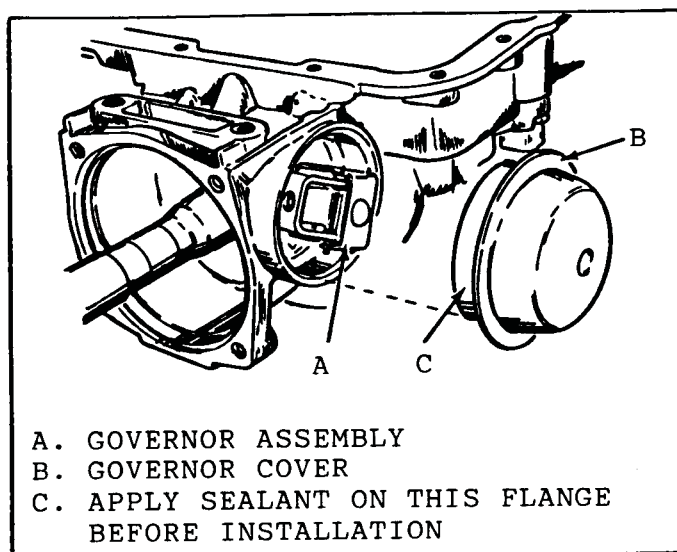

Figure 121
6. Apply sealant, such as loctite cup plug sealant #11 or equivalent to governor cover flange before installation (See Figure 121).